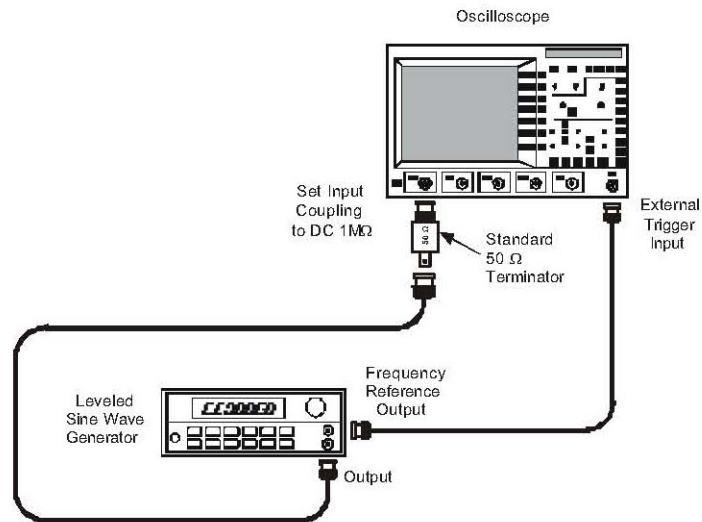

Figure 18, HF CMRR Test Setup 2.
9. Disconnect the AMPLIFIER OUTPUT cable from the oscilloscope's channel 1 and connect the terminated end of the sine wave generator output cable to the channel 1 input of the oscilloscope. Refer to Figure 18.